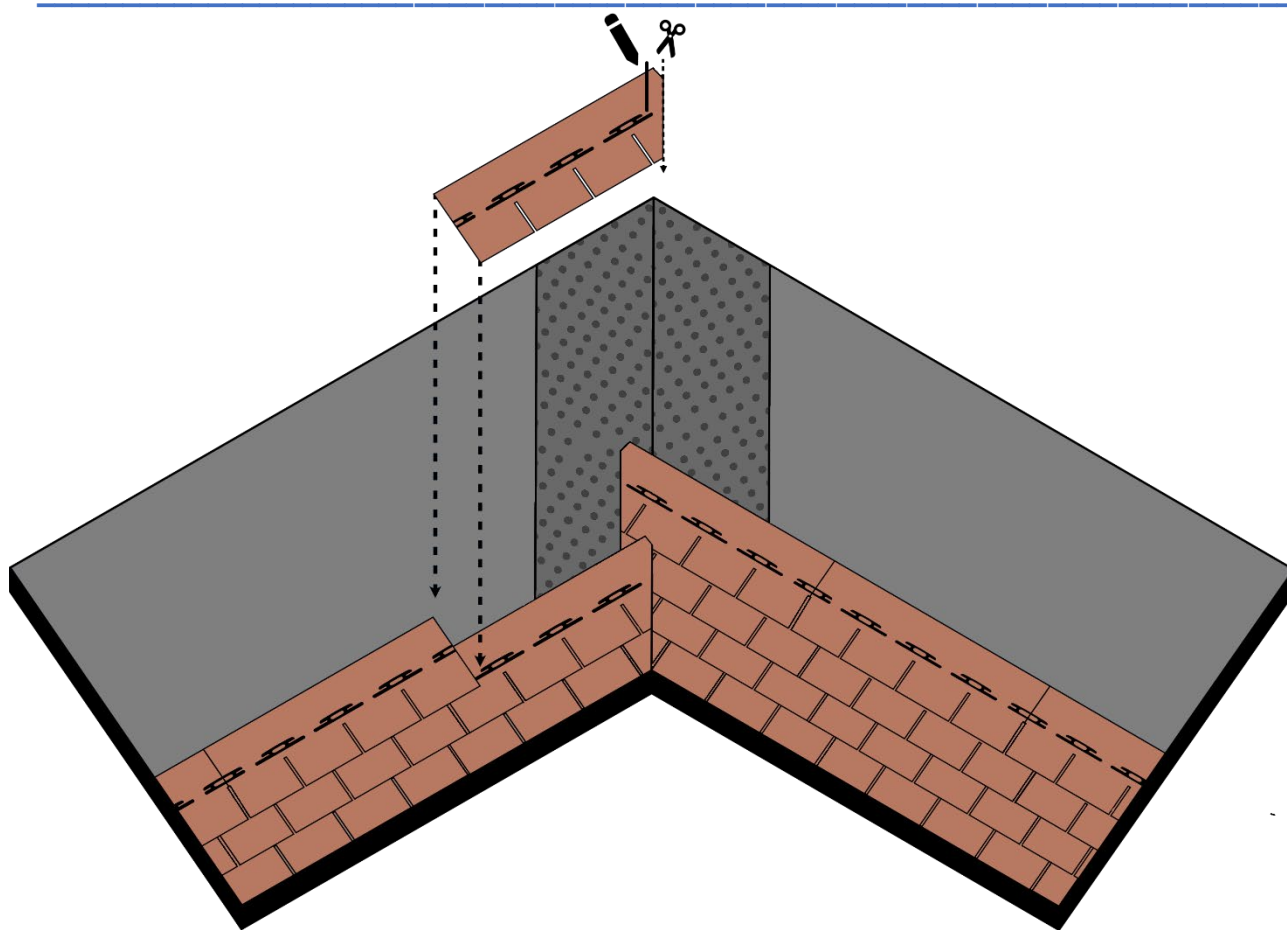

Fig. 21 – Shingles installation by torch at the valley
- Once the installation of the shingles of the entire pitch and for the entire length of the watershed has been completed, move to the adjacent pitch. Start installing the shingles from the starting row and continue in successive rows. Fix them with the flame of a torch, always heating the membrane and not the shingle element. The last shingle in each row should reach at least the valley line. Once the installation of the shingles is completed also for the second pitch, mark the axis of the valley. Then, proceed to cut the shingles of the second pitch following the valley line, as for the nail installation Cross-cut the top edge of the shingle to the valley, so as to convey the descending water along the axis of the valley. Lift the shingles of the second pitch at the valley line, one at a time and apply Bitustick at the bottom, for their final bonding – Fig. 21.